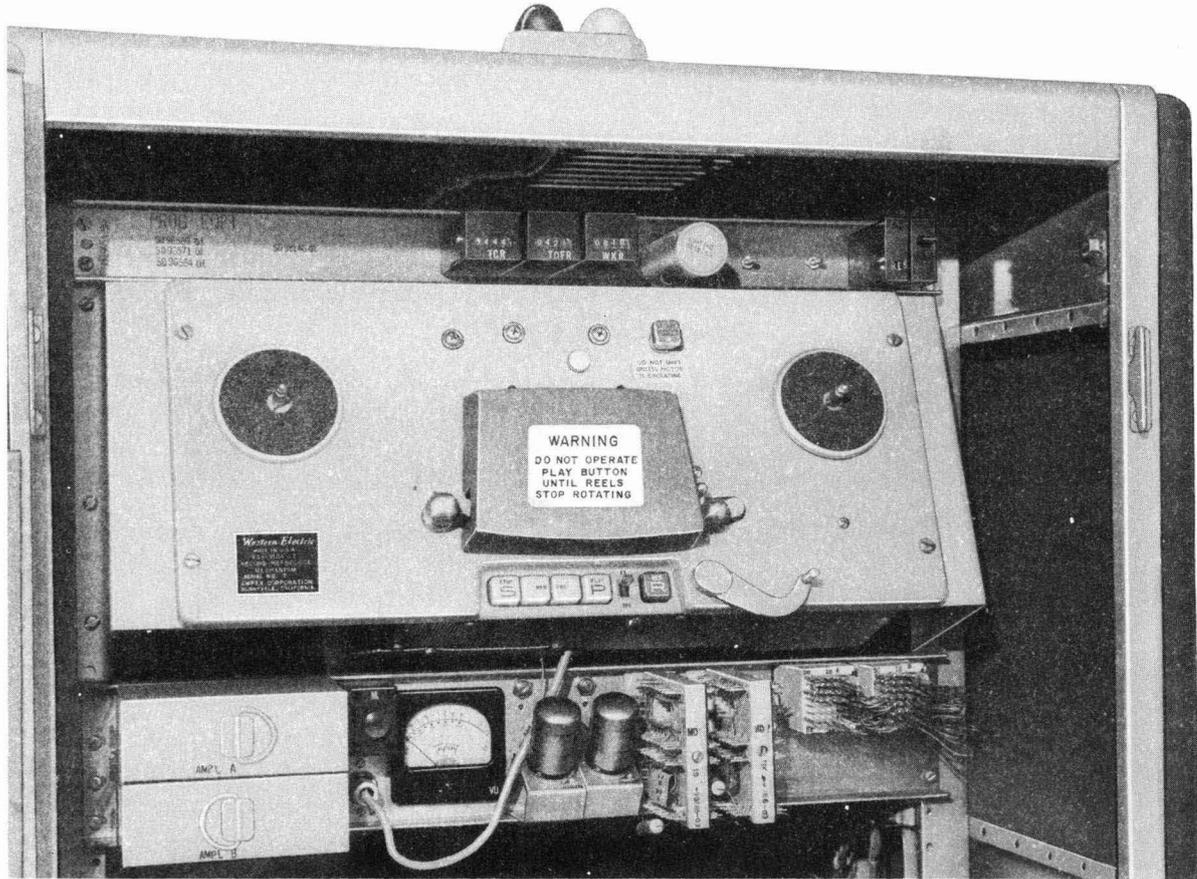

Fig. 1 — KS-19124 L2 Record-Reproduce Mechanism — Cabinet Mounted
3.03 No procedure is given for removal or replacement of the record-reproduce mechanism (Fig. 1) from the cabinet frame members.